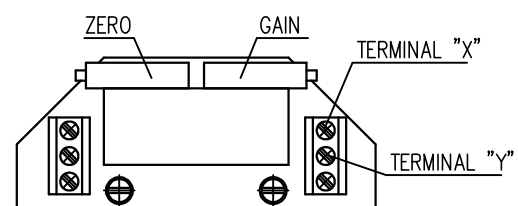

Fig.5a
##### 4.4.2 EPV – 3-wire version (Fig. 5a)
- Adjust the resistive transmitter according to the previous chapter. The resistance is to be metered on the terminals X-Y (Fig. 5a). The used transmitter resistance is 2000Ω or 100 Ω.
- Turn the adjusting trimmer ZERO (Fig. 5a) to adjust the output current signal rate measured on the terminals 81-82 to 0 mA or 4mA.
- Turn the adjusting trimmer GAIN (Fig. 5a) to adjust the output current signal rate measured on the terminals 81-82 to 20mA or 5 mA..